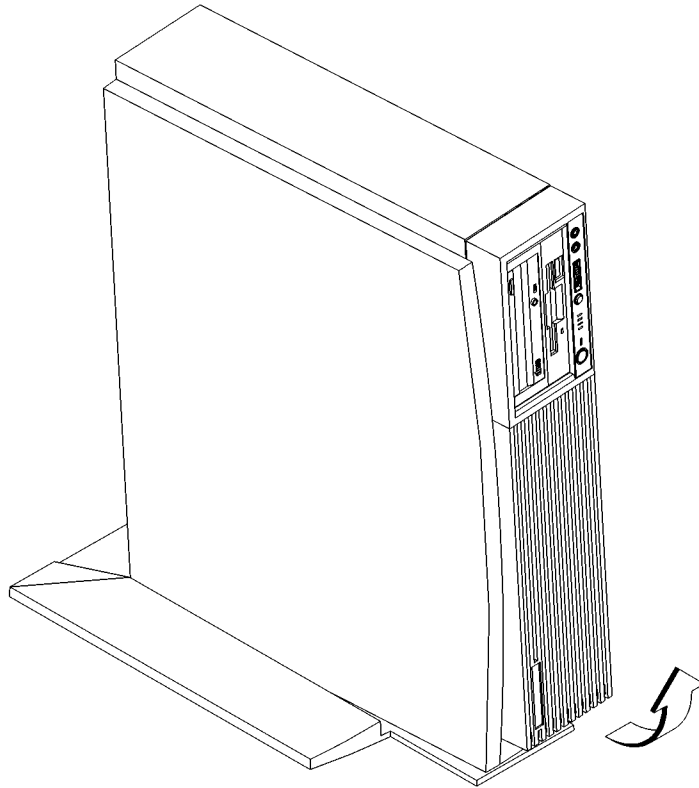

Figure 25
- 5 Remove the floor stand from the system unit, as shown in Figure 25.